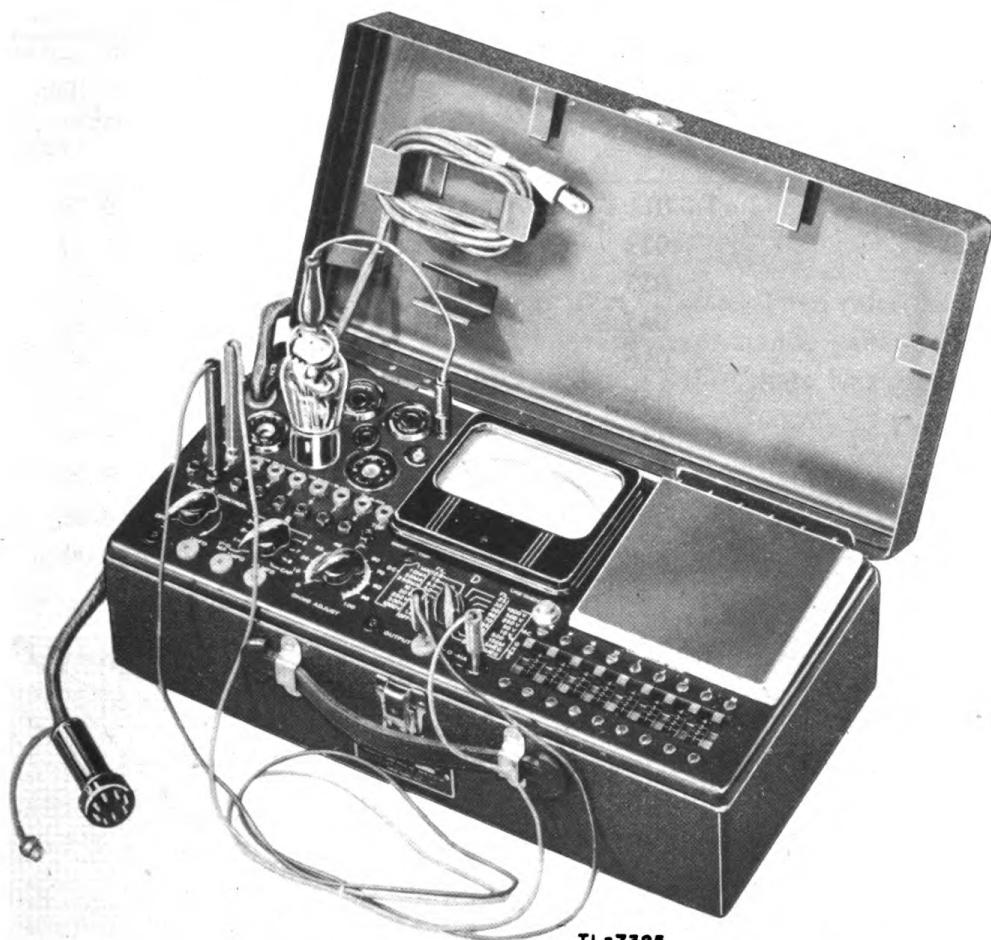

FIG. 9. COMBINATION TESTER, FREE-POINT CURRENT MEASUREMENTS
- b. Using the red test lead, connect the red V-O-MA jack to the red jack corresponding to the electrode being measured (fig. 9).
NOTE: Current is measured between red and black jacks of the same number (fig. 9). Voltage or resistance is measured between black jacks or a black jack and the chassis.